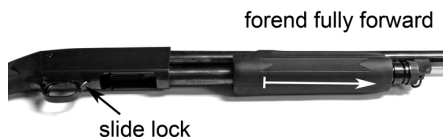
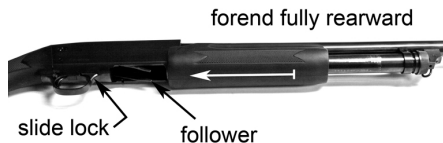

FIGURE 3
FIGURE 4
As the name indicates, 'pump' shotguns operate by pulling (pumping) the forend back to the receiver to open the bolt (extracting the cartridge in the chamber) and then pushing it forward to close the bolt (chambering the next cartridge). When the forend is in the fully forward position (bolt closed), it is 'locked' and can only be released by either pulling the trigger or depressing the SLIDE LOCK (see FIGURE 3 and FIGURE 4).
2. Pull the forend rearward, opening the bolt and exposing the chamber. If the forend is 'locked', depress the SLIDE LOCK and then pull rearward (see FIGURE 4).
2. Pull the forend fully rearward, opening the bolt and exposing the chamber. If the forend is 'locked', depress the SLIDE LOCK and then pull fully rearward (see FIGURE 4).